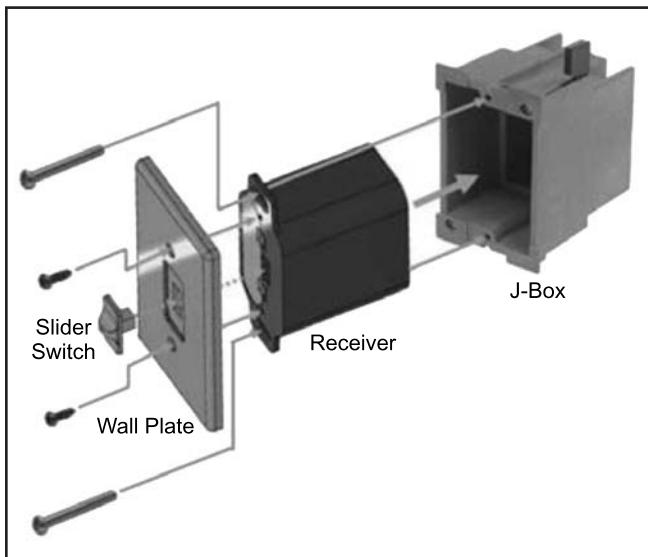

Figure 111: Wall Mounting the Receiver.
2. Install the Receiver in the Junction box using the existing J box screws (Figure 111).
3. Insert the four (4) AA type batteries in the battery compartment with the correct polarity.
9. Using the two (2) screws provided secure the cover plate to the Receiver.